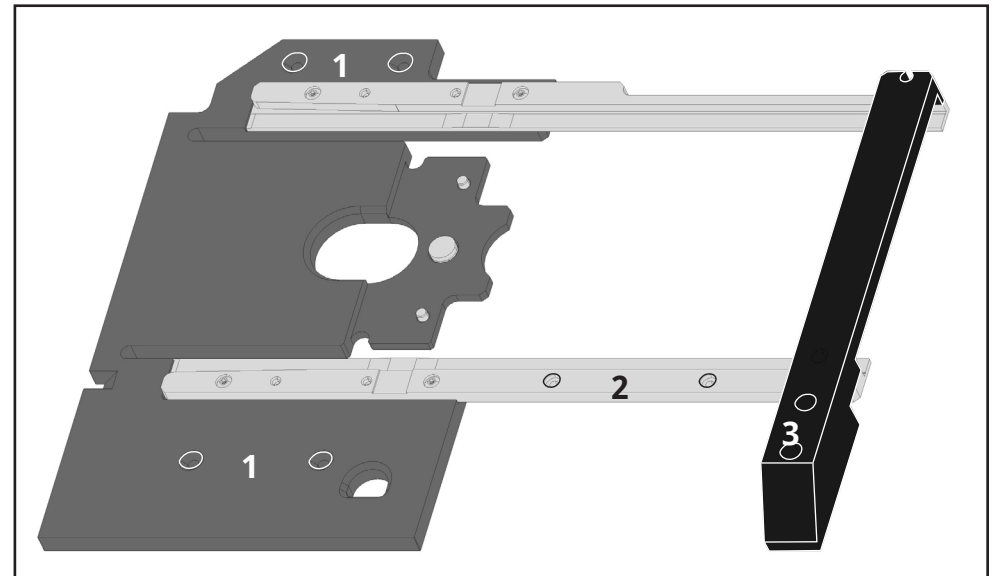

Figure 35: The screws that secure the platform support frame to the chassis
- the four (4) 2.5-millimeter flat head hex socket screws marked '1' in Figure 35
- the two (2) 2-millimeter hex socket button head screws that fix the frame and a spacer bar to the device chassis, marked '2' in Figure 35
- the two (2) 3-millimeter hex socket head screws marked '3' in Figure 35